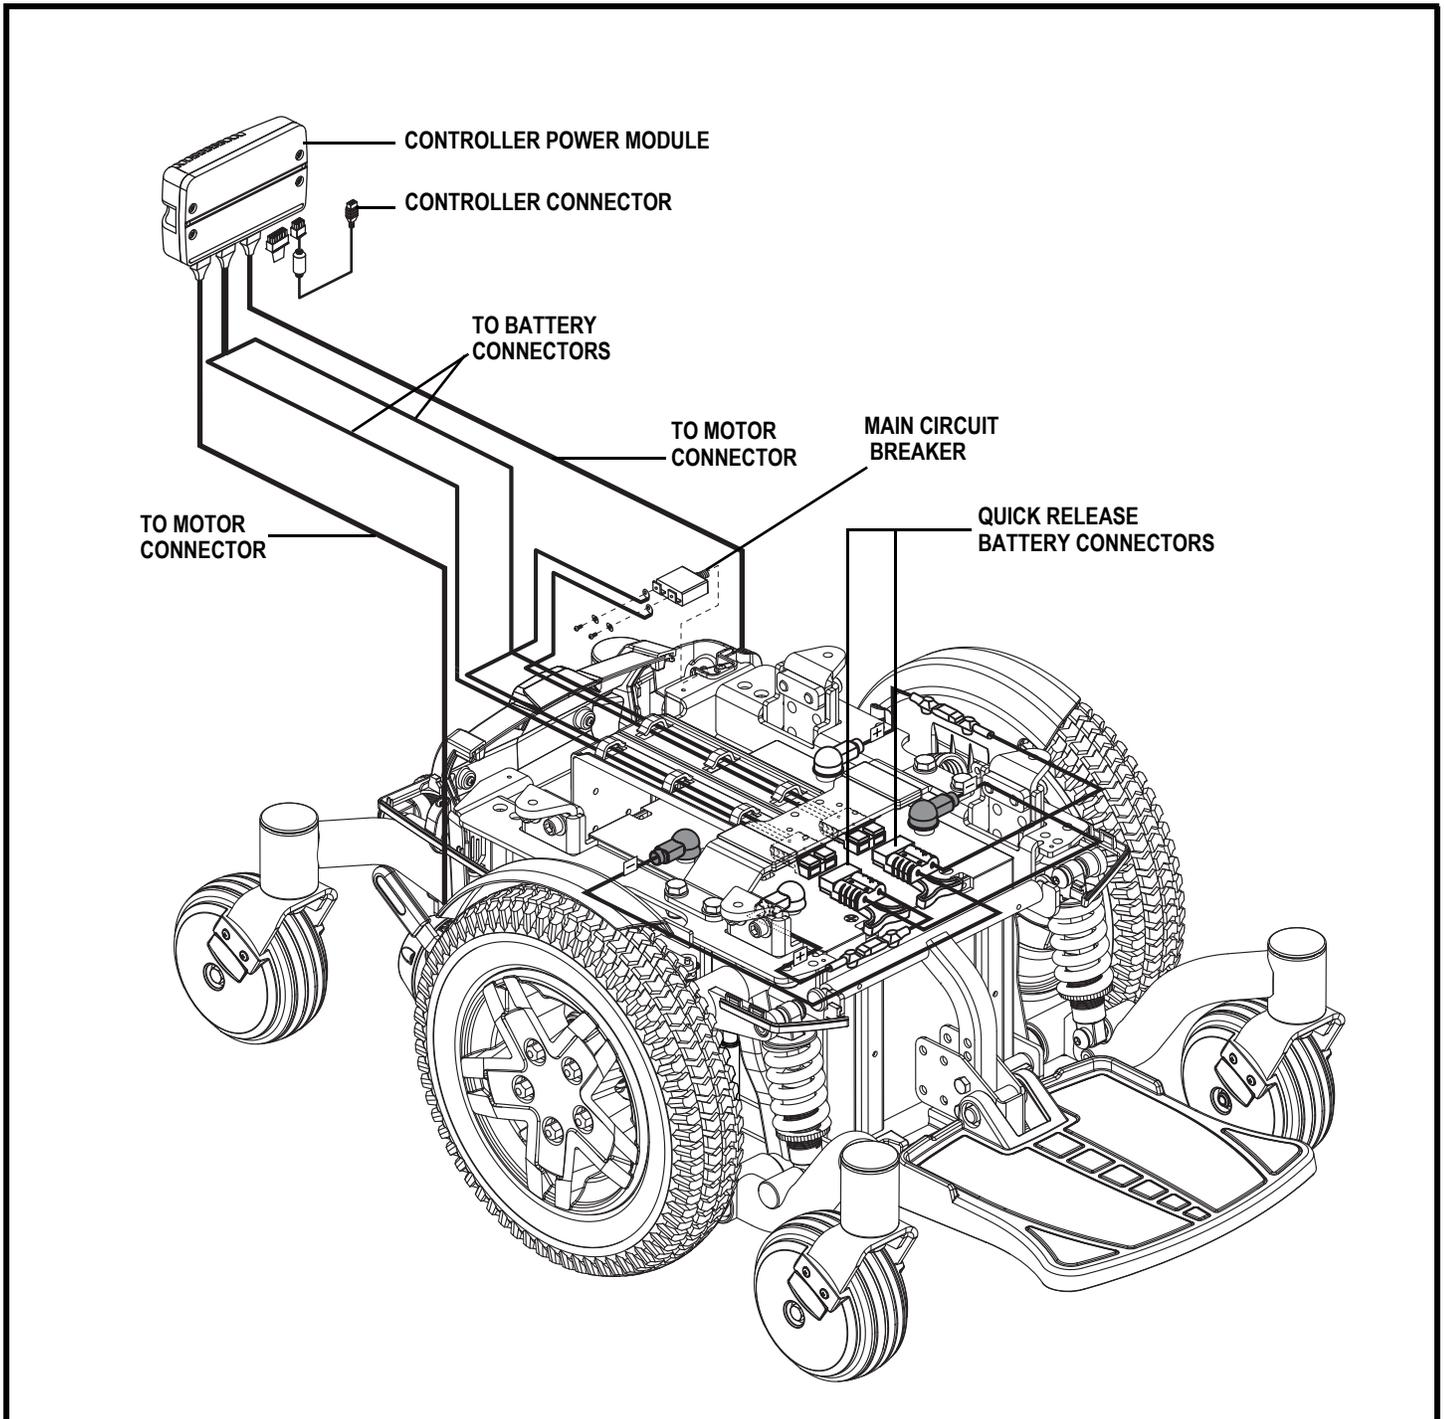

Figure 7. Q6 Edge Electrical Components
The electrical components consist of the controller assembly, the batteries, and the motors. The batteries, motors, and controller power module (if equipped) are located on the power base assembly. The controller is located on the seat assembly. Connectivity between the controller and the motors, batteries, and the battery charger is provided by one or more wiring harnesses. See figure 7.
5. Plug the controller connector into the rear of the power base. See figure 7.
3. Unplug the controller connector(s) from the power base. See figure 7.